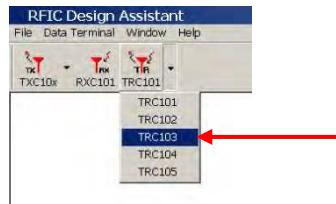
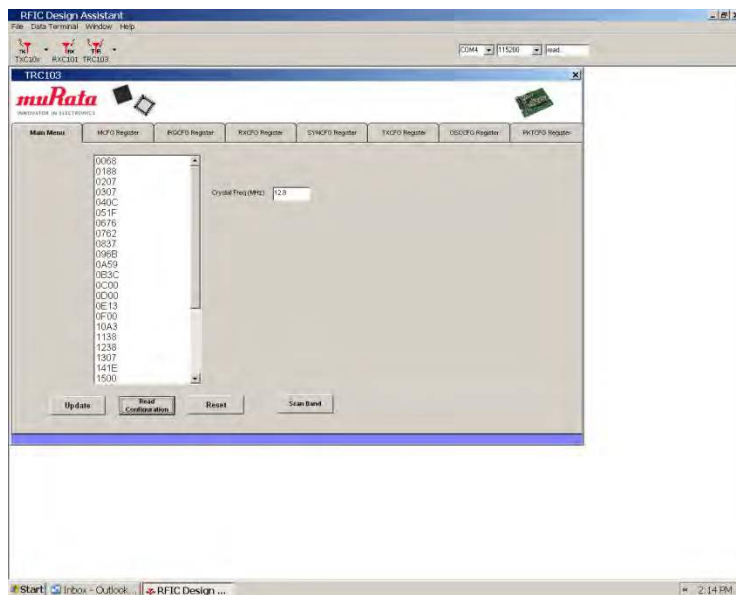

Figure 8 - Selecting TRC103 Operation
Figure 9 - Read Configuration Test
5. Select the TRC103 from the TRC drop-down menu as shown in Figure 8. This will launch the TRC103 multi-tab dialog window as shown in Figure 9.
6. Select the *Main Menu* tab and click on the *Read Configuration* button. A hex dump of the current TRC103 configuration parameters should appear in the text box above the button as shown in Figure 9. This confirms the development board set is communicating with the utility program. Test the other development kit board set in the same manner. The development kit is now ready to use.